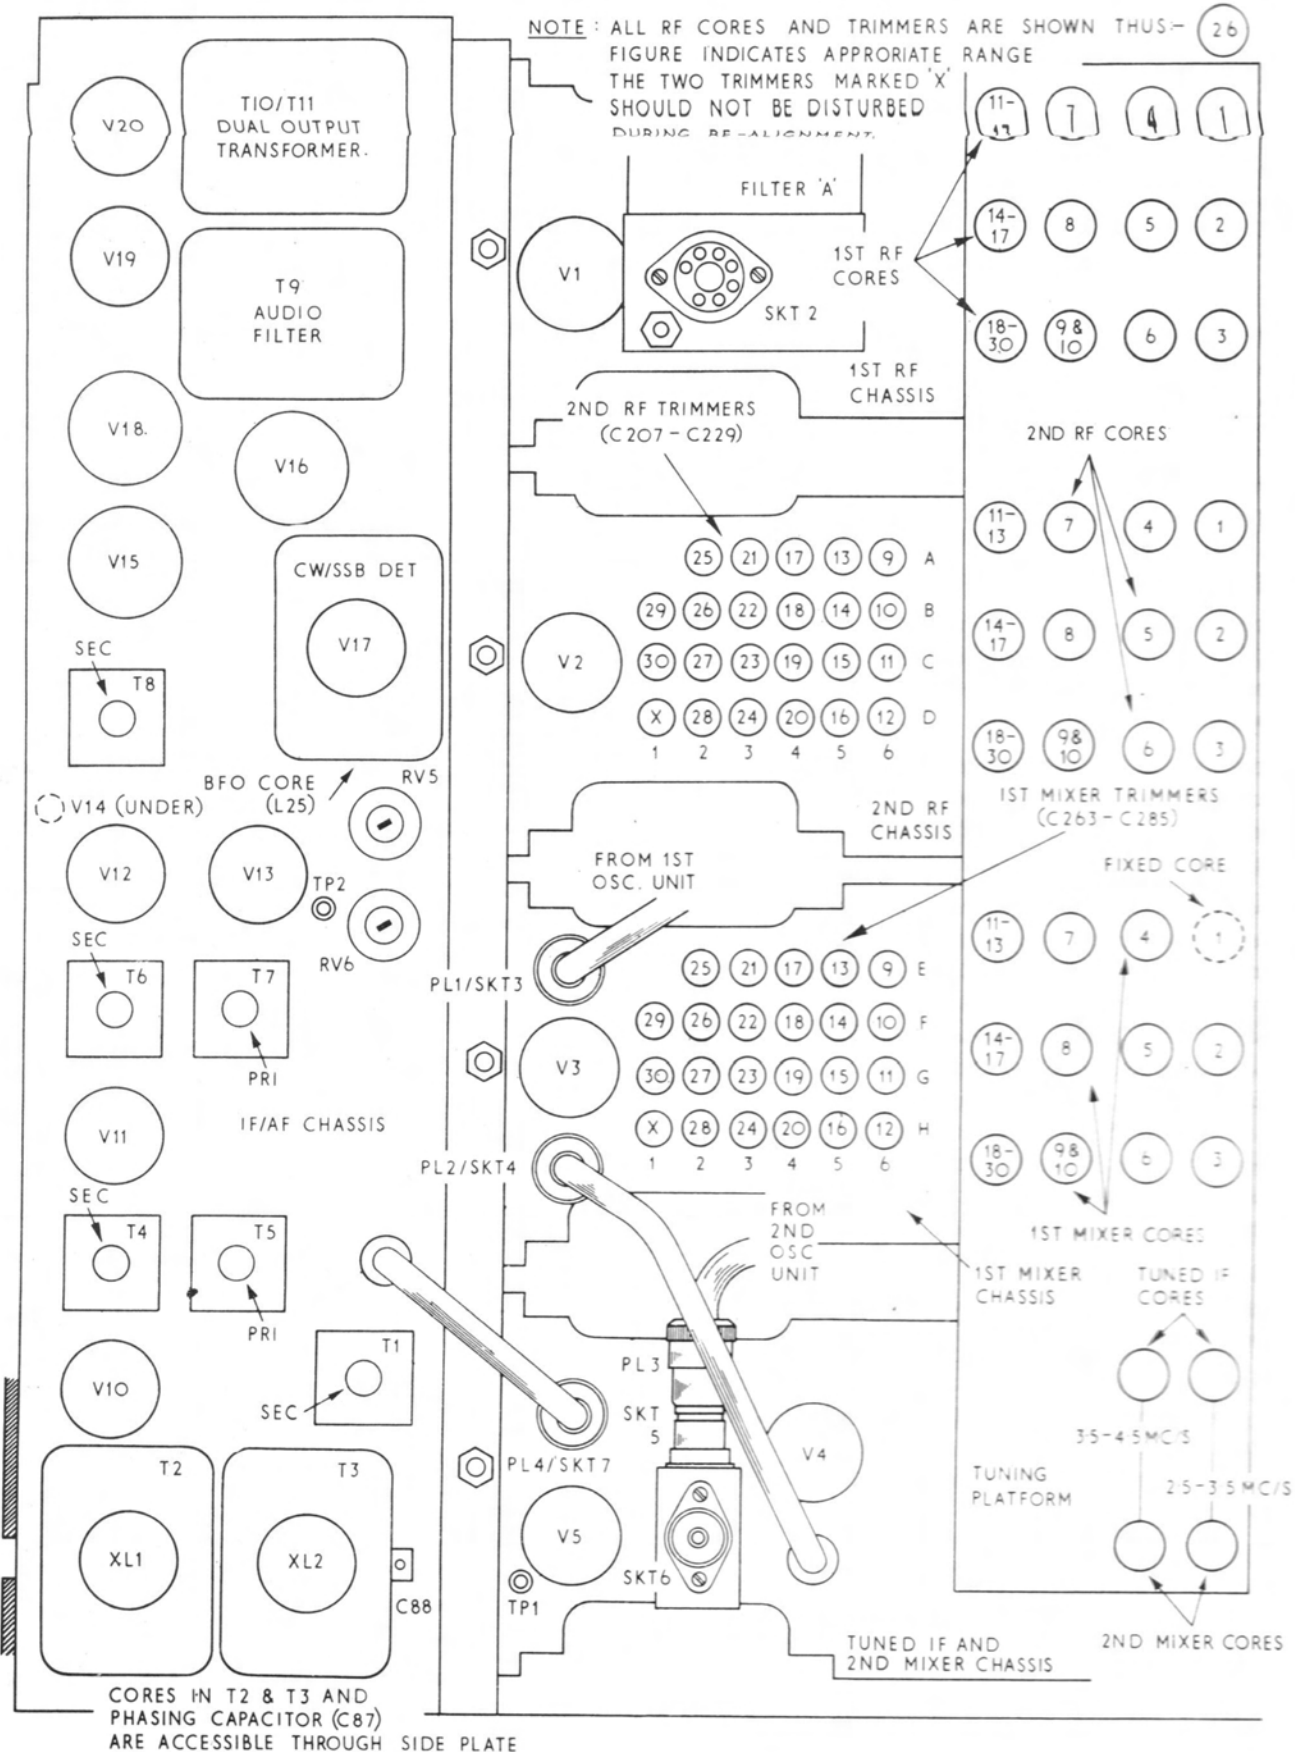

Fig. 7. Part-top view showing location of major components and all RF/IF Trimming Adjustments.
This is a sub-miniature wired-in type and is located on the underside of the IF/AF chassis (see Fig. 7)
2. The cover can now be lifted clear and V14 located by reference to Fig. 7.
The two dual crystals (XL1 and XL2) used in the bandpass filters are standard envelope types on B7G type bases. When replacements are fitted it is most important to replace the screening cans and to ensure that the crystal unit with the closest crystal spacing is inserted in the left-hand socket (receiver viewed from front — see Fig. 7).
The complete 2nd IF Section (including the 2nd Mixer, V5) can be checked by introducing a modulated 500 kc/s signal at TP1 (adjacent to V5 — see Fig. 7). The sensitivity should be of the order 1uV for an output of 50mW at the 2.5 ohm terminals (Bass switch and IF/AF Gains at maximum, AGC and NL off).
2. All cores are provided with hexagonal bores which run completely through their centres. This allows adjustment of the lower core from the top side of the chassis when the special Neosid trimming tool (Type H.S.1.) is used. This tool has a shank of reduced diameter which makes it possible to pass one end of the tool right through the top core for adjustment of the lower core. Reference can be made to Fig. 7 for identification of primary and secondary windings. The lower core in each case is, of course, opposite to the one indicated. All cores are self-locking with rubber string and locking compound.
The phasing capacitor (C87) which is used in the 'CRYSTAL 1' position is reached through the upper alignment hole. C88, the 'CRYSTAL 2' phasing capacitor, has a small spindle sleeve which protrudes through the right-hand side of the screening can (see Fig. 7). The sleeve is provided with holes so that the capacitor can be adjusted with a small tommy bar.
Connect the sweep generator output lead to the Test Point (TP1) which is located close to the 2nd Mixer Stage, V5. It will be necessary to remove the RF cover to make connection to TP1, the location of which is shown in Fig. 7. Reference to the Main Circuit Diagram will show that the generator output is applied direct to the grid of V5 and it is suggested that this stage is operated as a straight amplifier by taking out PL3 to isolate the injection from the 2nd Local Oscillator Unit. Operation of the stage in this manner will prevent spurious beats due to any harmonic content in the generator output mixing with the oscillator and appearing on the display trace.
A further Test Point (TP2) is provided for ease of connection from the diode load (R75) to the Oscilloscope 'Y' plate amplifier. TP2 is located close to V13 (see Fig. 7) and a screened lead should be used to make connection to it.